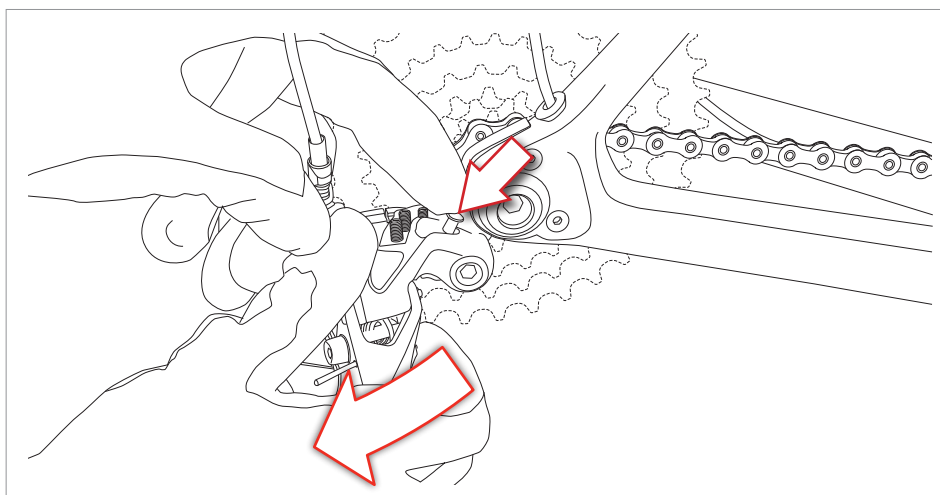

Fig.3
- After following the rear wheel assembly procedure, rotate the rear derailleur clockwise slightly and simultaneously press the release button, accompanying the rear derailleur back into the operating position (**Fig. 3**).